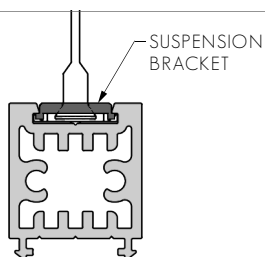

FIG. 2 - ADJUST SUSPENSION CABLE
2. FEED SUSPENSION WIRES INTO CEILING ATTACHMENTS. PRESS NIPPLE INWARDS TO ADJUST CABLE LENGTH (SEE FIG. 2).
4. ONCE CORRECT SUSPENSION HEIGHT HAS BEEN SET, CUT OFF EXCESS SUSPENSION WIRE USING SHARP SIDE CUTTERS. (SEE FIG. 2).